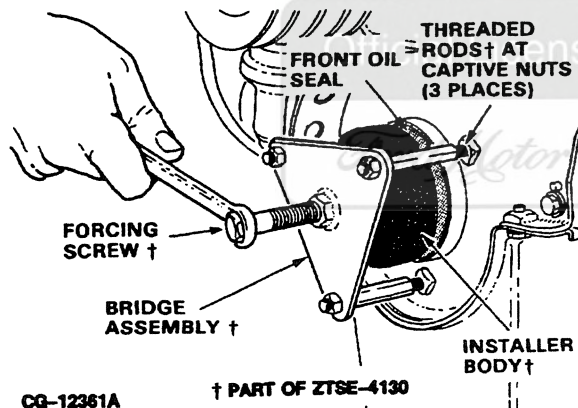

Figure 6.14. Installing Front Oil Seal
4. Attach the bridge assembly to the engine front cover (Figure 6.14).
5. Position the square metal plate between the body and the bridge assembly. Make sure that the forcing screw tip engages the machined recess in the plate. Refer to Figure 6.14.
6. Turn the forcing screw until the body stops on the front cover to fully install the seal. Refer to Figure 6.14.